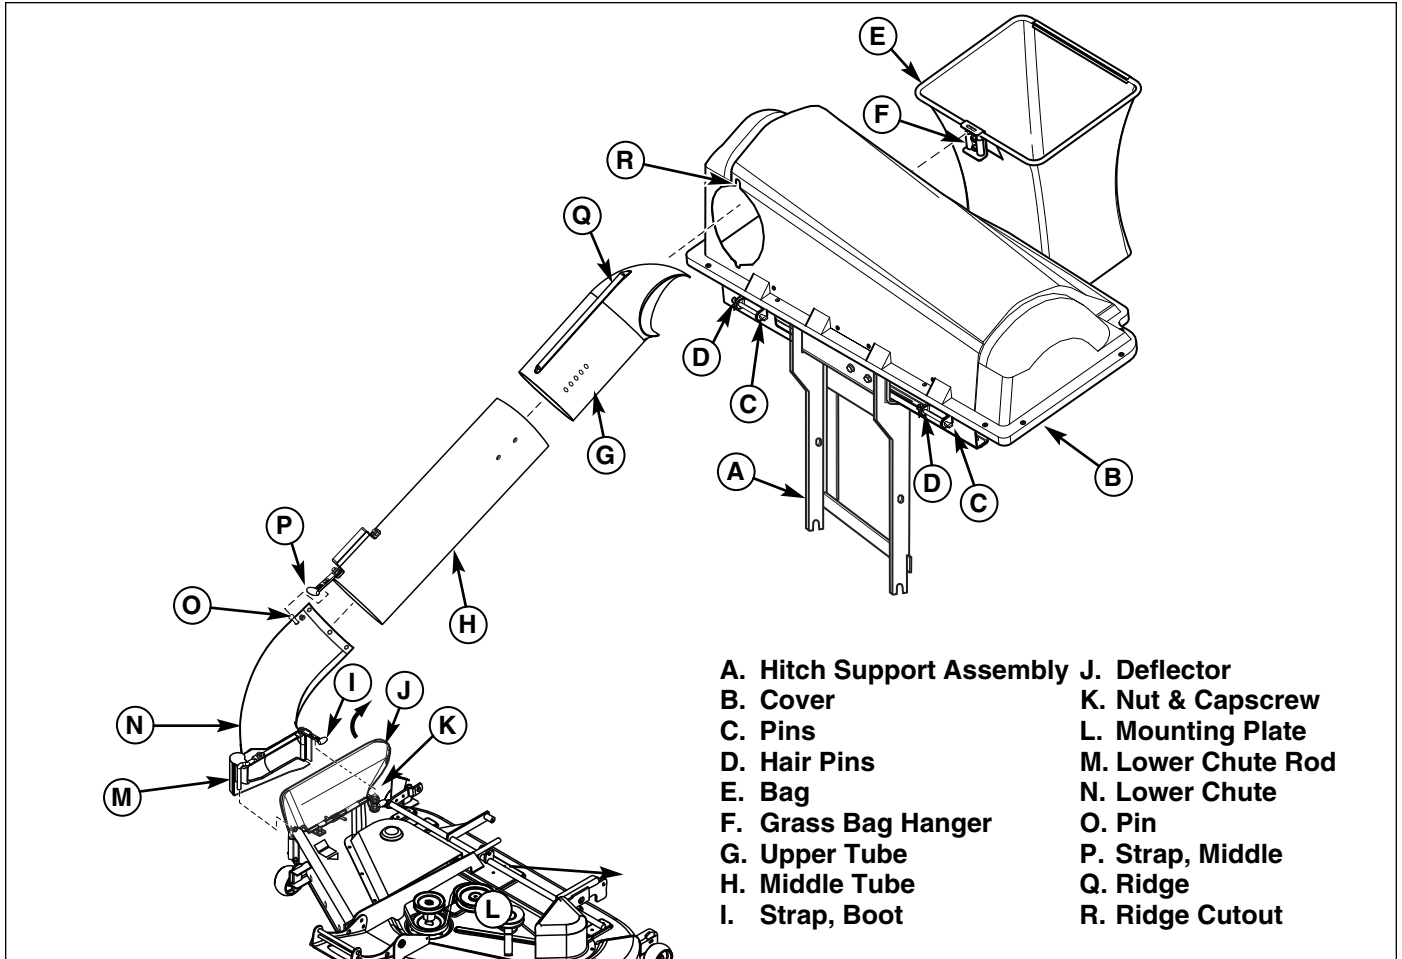

Figure 11. Collector Installation and Removal
1. Mount the hitch support assembly (A, Figure 11) onto rear tractor frame.
2. Attach cover (B) to support assembly using pins (C) and hair pins (D).
3. Pivot cover (B) up. Install bag (E) by attaching grass bag hanger (F) to support assembly (A).
4. Lift discharge deflector (J) up. Insert lower chute rod (M) into mounting plate (L). Pull boot strap (I) and secure by placing hole closest to knob in boot strap completely over locknut and capscrew (K).
5. Slide the upper tube (G) into cover (B) aligning ridge (Q) with cutout (R).
6. Slide middle tube (H) into upper tube (G). Slide middle tube (H) over lower chute (N). Pull strap (P) and place hole completely over pin (O).
1. Unhook strap (P, Figure 11) from pin (O). Slide middle tube (H) into upper tube (G) and remove middle tube (H). Remove upper tube (G) from cover (B).
2. Lift up cover (B) remove and empty bags (E).
3. Unhook strap (I) from locknut and capscrew (K). Remove lower chute (N) from mounting plate (L). See that the discharge deflector (J) returns to the DOWN position.
4. Remove hair pins (D) and pins (C) then remove cover (B).